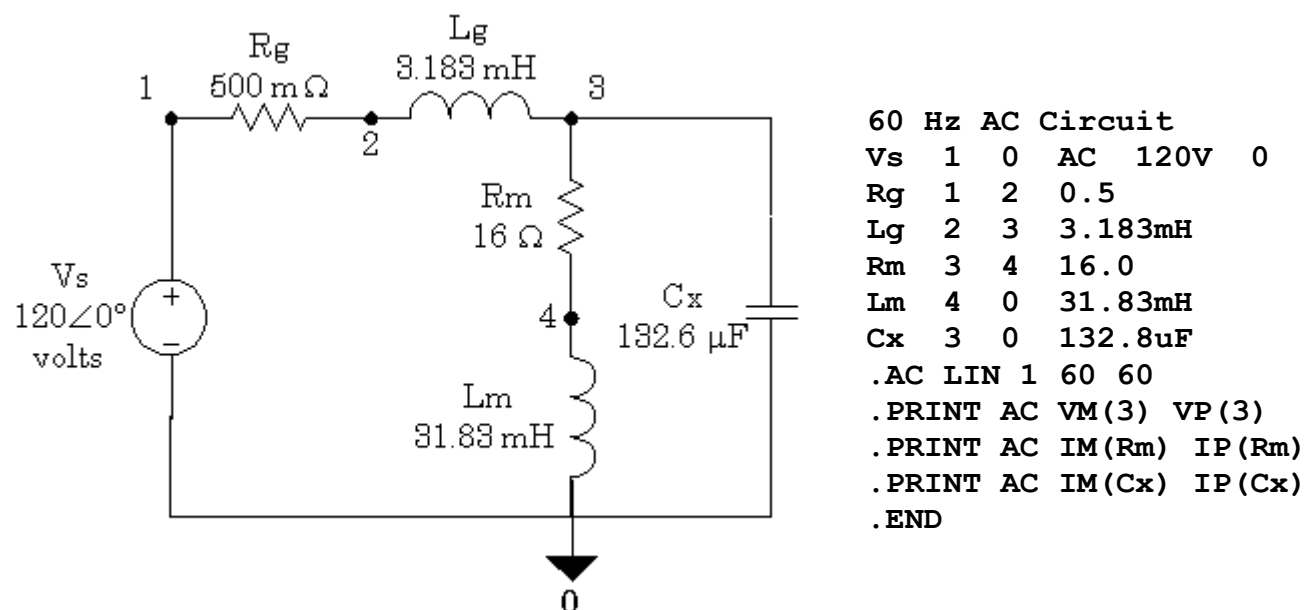

Figure 1
Draw the circuit shown in figure 1 in schematic and analyze it for the source frequency of 50 Hz. Check whether KCL is satisfied in node 3. Also check KVL for both loops.
1. For the circuit shown in figure 1 draw complete phasor diagram and show the magnitudes and phases of all the voltages and currents.